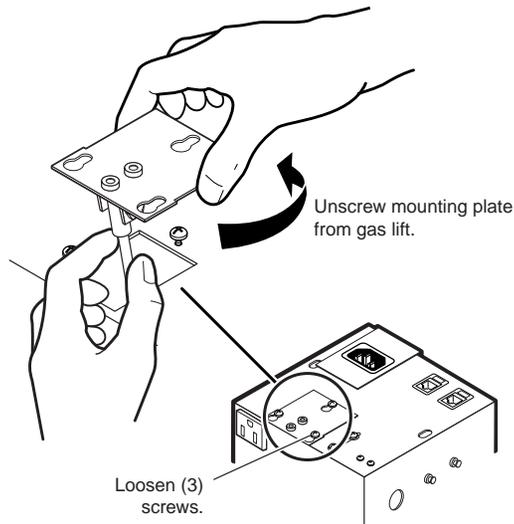

Figure 3-5 — Removing the gas lift mounting plate
2. Loosen the three Philips head screws that secure the gas lift mounting plate in place (figure 3-5).
NOTE Figure 3-5 shows an HSA 200 model. Removing the gas lift mounting plate from an HSA 222 is an identical procedure.
3. Slide the gas lift mounting plate toward the center of the enclosure, releasing the mounting plate (figure 3-5).
4. Turn the gas lift mounting plate counterclockwise until the plate comes free from the shaft of the gas lift (figure 3-5).